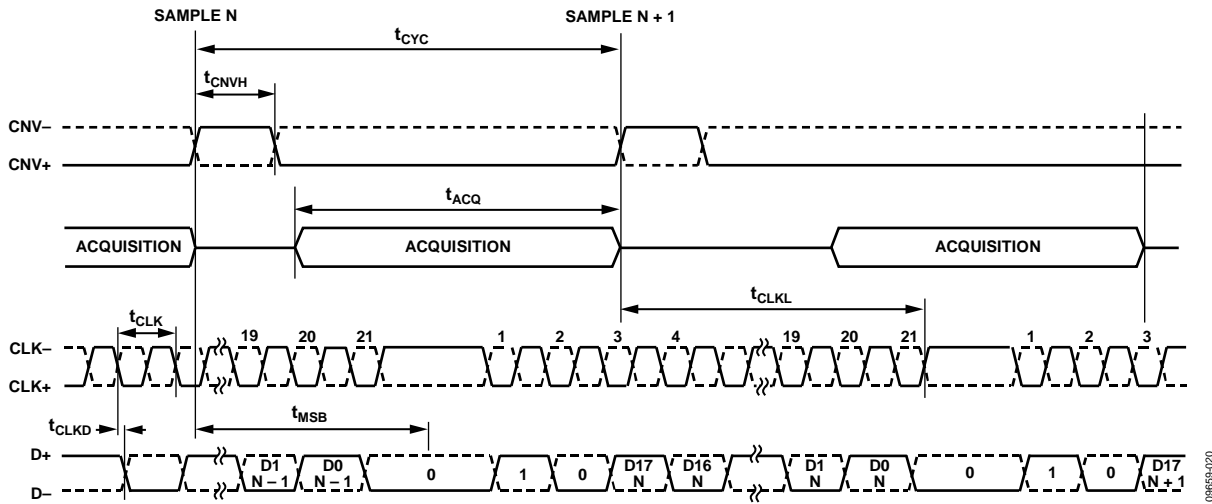

Figure 37. Self-Clocked Interface Mode with Extra Clock Pulse Timing Diagram
When the self clocked interface mode is used, the AD7960 also allows the user to provide an extra (21st) clock pulse to see a guaranteed 0 state at the end of the frame, as shown in Figure 37. After  $t_{MSB}$  has elapsed, the first bit of the header sequence, 0, automatically appears on D± and the remaining two bits of the header, 10, are then clocked out by the first two CLK± falling edges at the beginning of the next sample. This header (010) is used to synchronize D± of each conversion in the digital host because, in this mode, there is no clock output synchronous to the data (D±) to allow the digital host to acquire the data output.